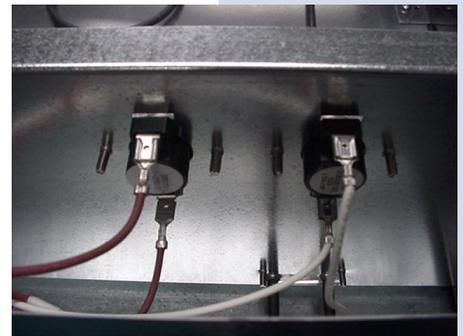

Figure 9
7. Disconnect the 2 wires. (Figure 9)